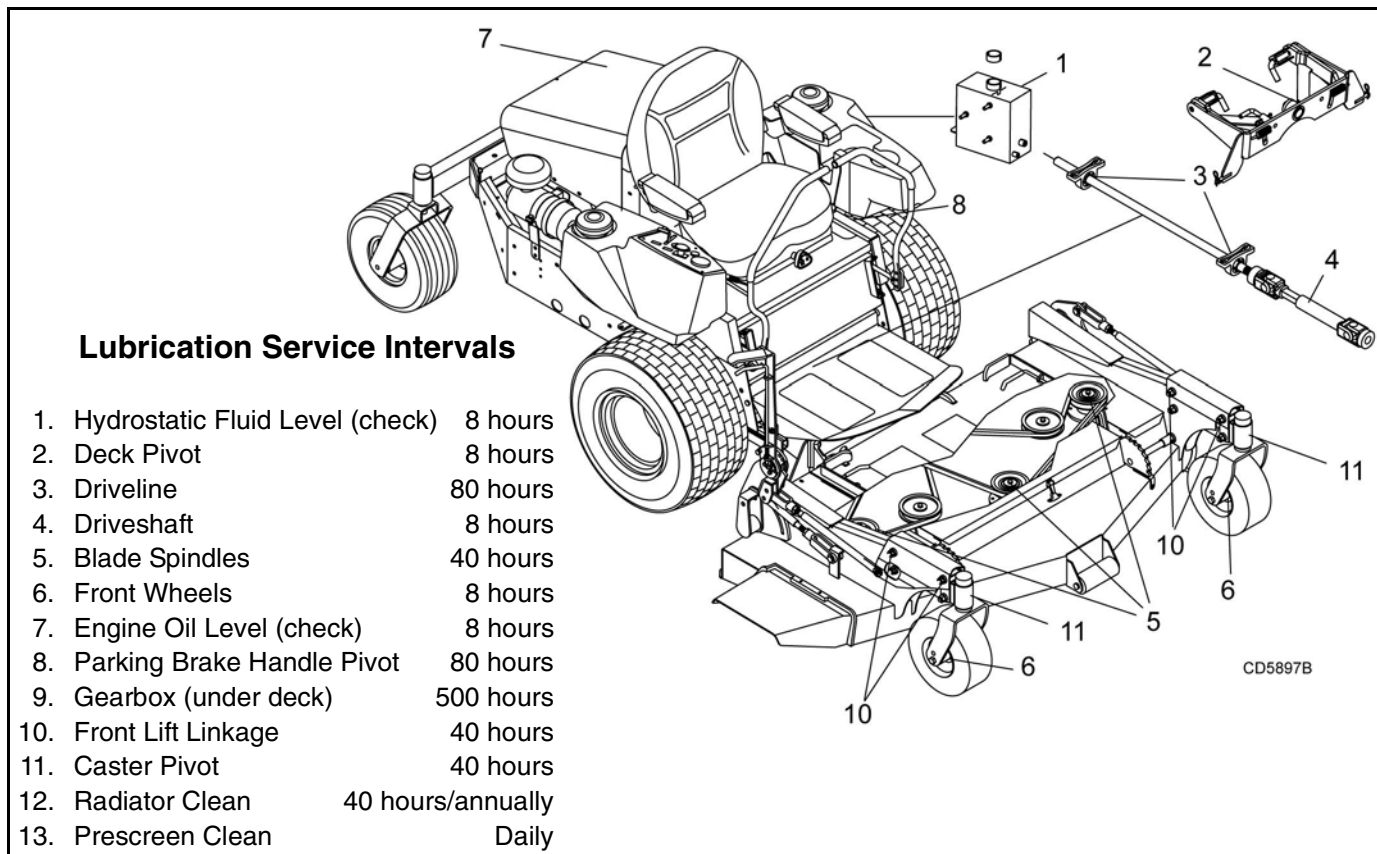

Figure 6. Lubrication Diagram
2. See Figure 6 for lubrication points and frequency or lubrication based on normal operating conditions. Severe or unusual conditions may require more frequent lubrication.